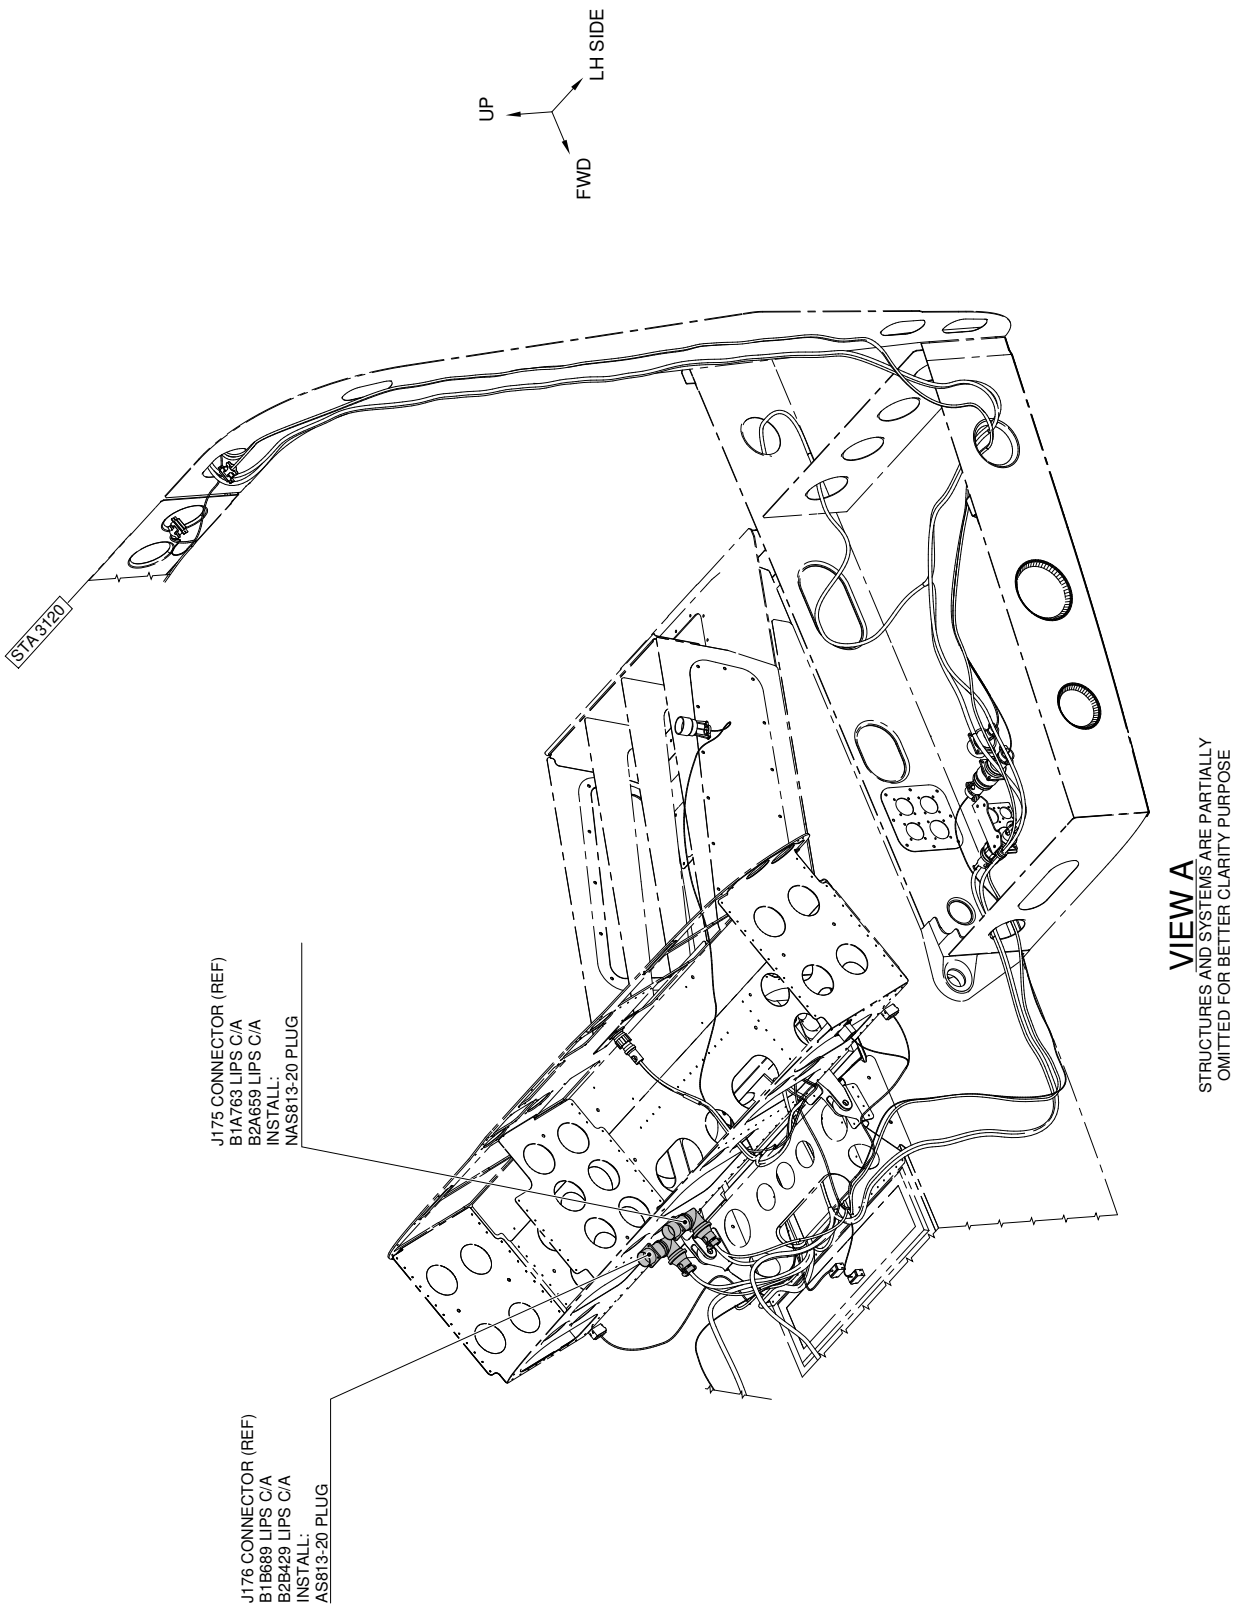

Figure 3
4. With reference to Figure 3, protect the sectioning connector J175 by means of the plug P/N NAS813-20.
6. With reference to Figure 3, protect the sectioning connector J176 by means of the plug P/N NAS813-20.